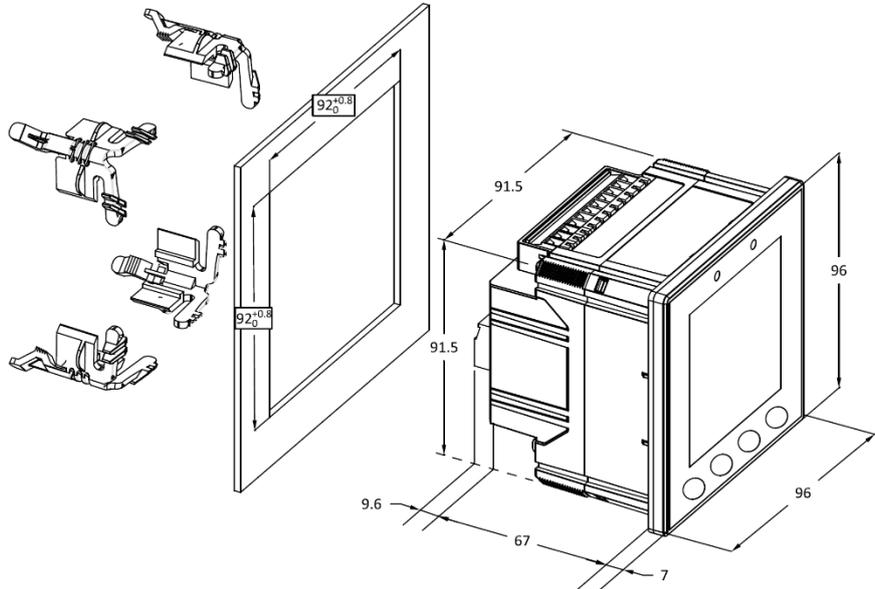

Figure 2-8 Panel Cutout Mounting
- Fit the meter through a 92mmx92mm cutout as shown in Figure 2-8